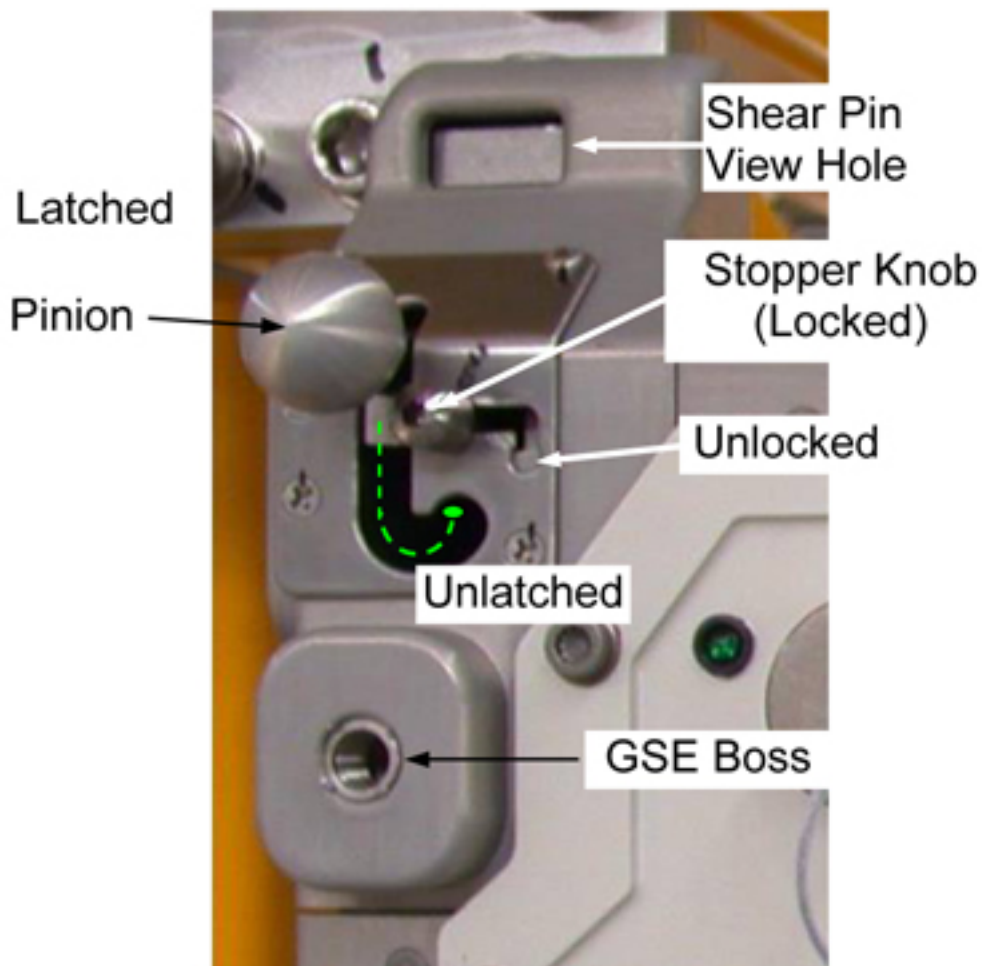

Figure 2. Detail A – Left Rack Upper Attach Mechanism, Typical.
- 1.1 Loosen left Upper Attach Mechanism Stopper Knob (Ratchet Wrench 3/8"; 5/32" Hex Head Driver, 3/8" Drive). Move to the right to allow Pinion unlatching. Refer to Figure 2.
Refer to Figure 2.